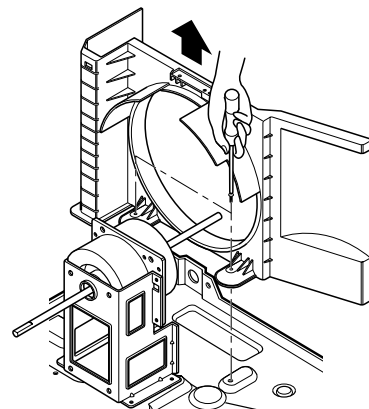

Figure 24
3. Remove the shroud. (See Fig. 24)